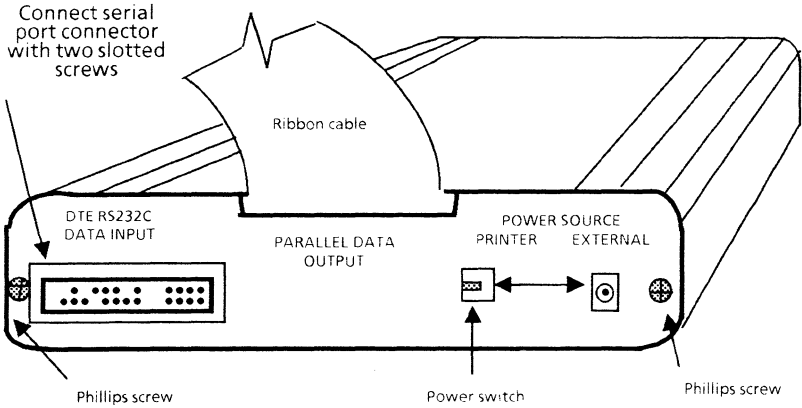

Figure 4-2 Print buffer (rear view)
2. Connect (with slotted screws) the opposite end of the Xerox-supplied cable to the RS232C serial port connector on the back of the print buffer (Figure 4-2). To ensure proper connection to the print buffer, gently tighten the screws.
2. Locate the power switch on the rear of the print buffer (refer to Figure 4-2).